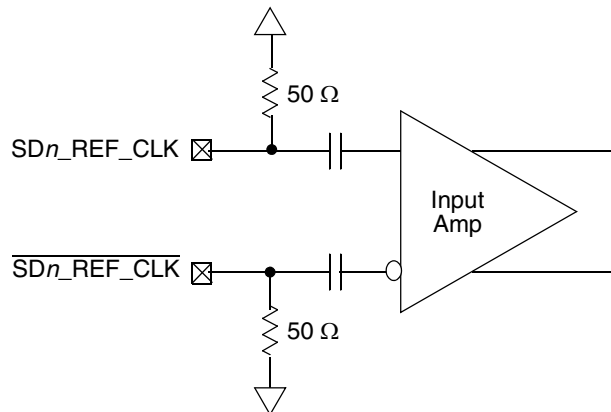

Figure 37. Receiver of SerDes reference clocks
- The $\overline{SD_REF_CLK}$ and SD_REF_CLK are internally AC-coupled differential inputs as shown in Figure 37. Each differential clock input ($\overline{SD_REF_CLK}$ or SD_REF_CLK) has a 50- Ω termination to $SGND_SRDS$ followed by on-chip AC-coupling.